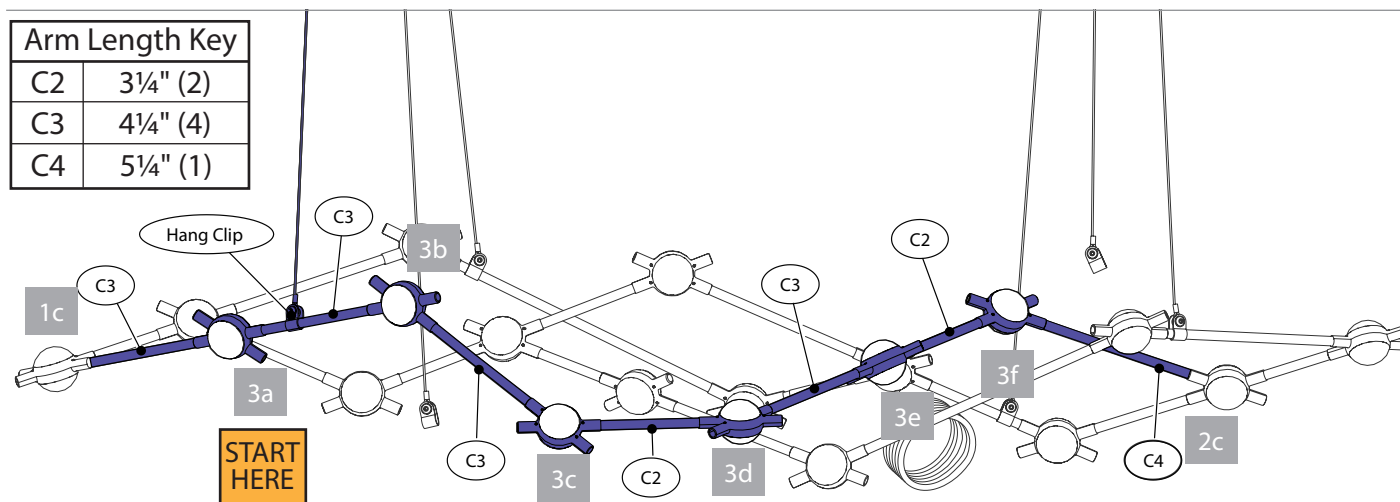

Fig. 7a - Front View
- Continue by connecting Arms and 45° Hubs following the order and pattern in Figs. 7a/7b and complete this section by connecting the C4 Arm to the 45° Hub (2c) from Section 2.